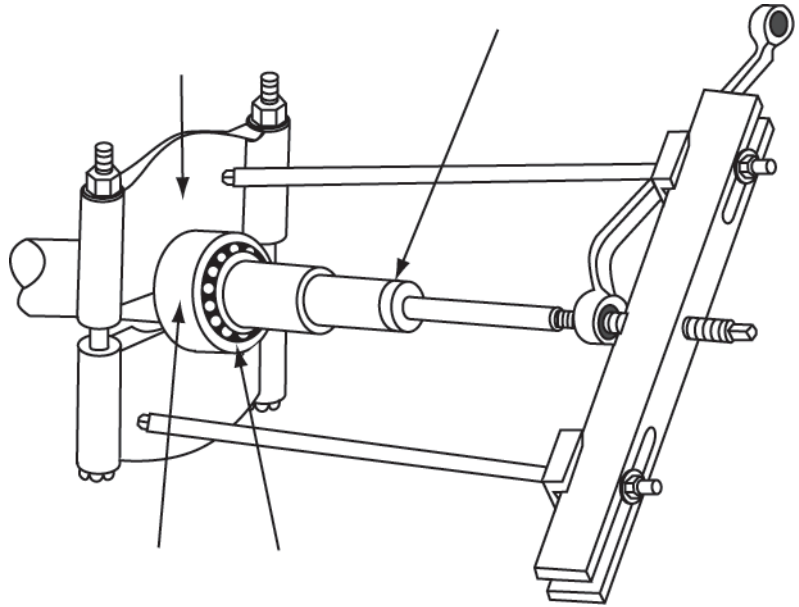

Figure 27 Pulling the Bearing
2. Use a puller to remove the bearing from the shaft end with a cap. If the bearing is going to be used again, make sure the puller supplies pressure only against the bearing inner ring. See Figure 27.